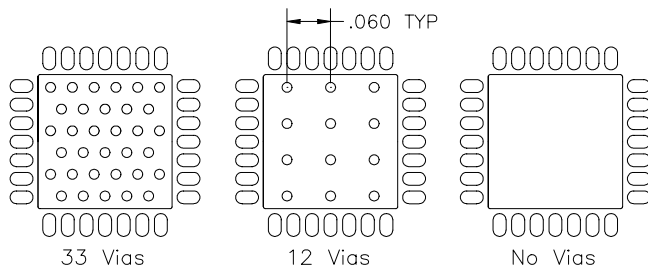
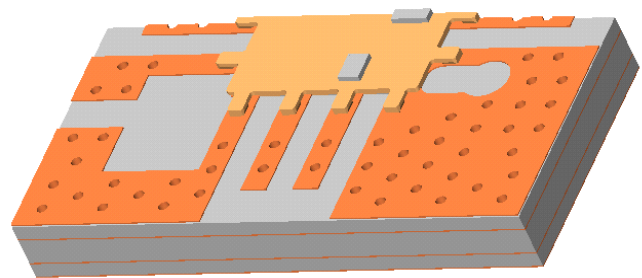

Figure 2: Via Configurations
Figure 3: Finite Element Model showing die, leadframe and PCB construction (half-model; RF leads omitted)
This study investigated two additional mounting configurations: twelve (12) vias and no vias under the package. These three configurations are illustrated in Figure 2.
Finite element models were generated for the 3 via configurations illustrated in Figure 2. Power was deposited over a region on top of the 2 active die corresponding to their respective heat generating areas. The models were not created to show fine detail of the die structure, but instead, to illustrate the heat flow below the active regions. The epoxy joint below each die and the leadframe depict dimensionally accurate models. The RF leads do not contribute to thermal spreading and were omitted for simplicity. The .063” thick FR4 PCB was modeled using four 1-ounce copper layers (top side, back side, 2 inner). In each of the 3 studies, boundary conditions were set with power deposition over active regions of the die, and backside PCB layer held at 0°C. The model is shown in Figure 3 (note: symmetry allows a half-model to be used).